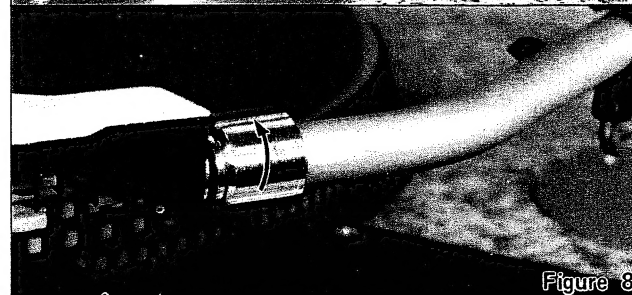

Figure 8
6. Insert the head-shell into the top of tone arm and turn the clamp collar in arrow direction to fix the head-shell. (Refer to figure 8.)